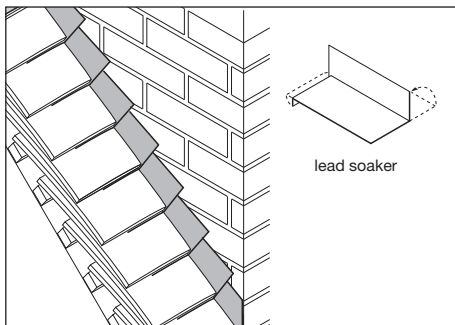

Fig. 24 – Lead soakers
- 3 Form Code 3 lead soakers with an upstand of 75mm to place against abutment. They should be 175mm wide and 190mm long allowing a 25mm downturn over back of tile (Fig. 24).